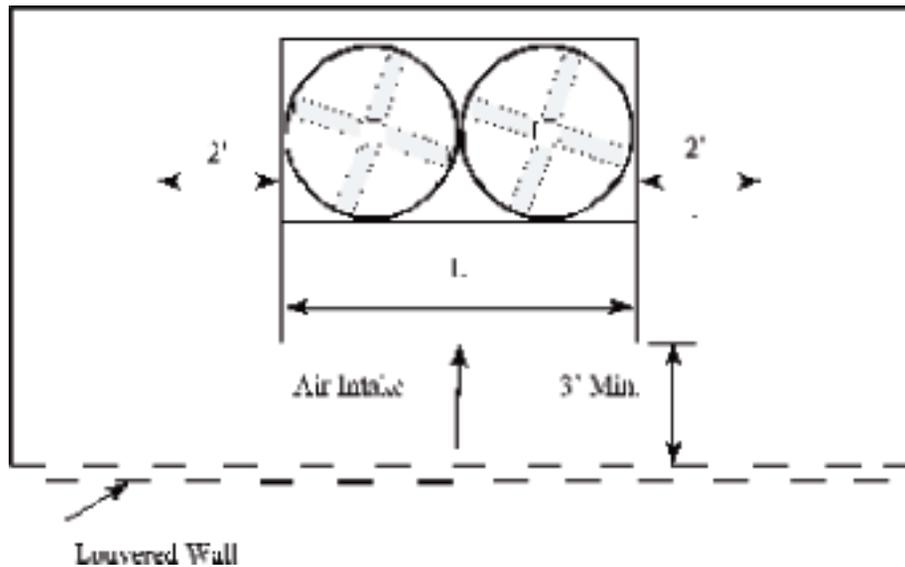

Figure 4: Plan view of a single air lintake unit in enclosure with louvered walls
- a. The air intake directly faces the louver or slot locations as shown in Figure 4.